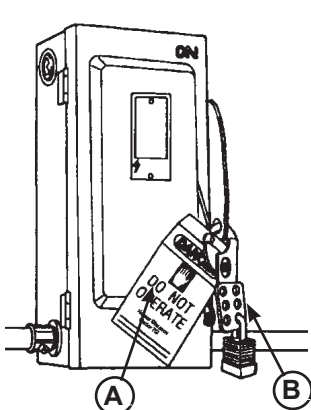

Figure 15
When working with electrical or electronic controls, make sure that the power source has been tagged (A) and locked out (B) according to OSHA regulations and approved local electrical codes (see Figure 15).